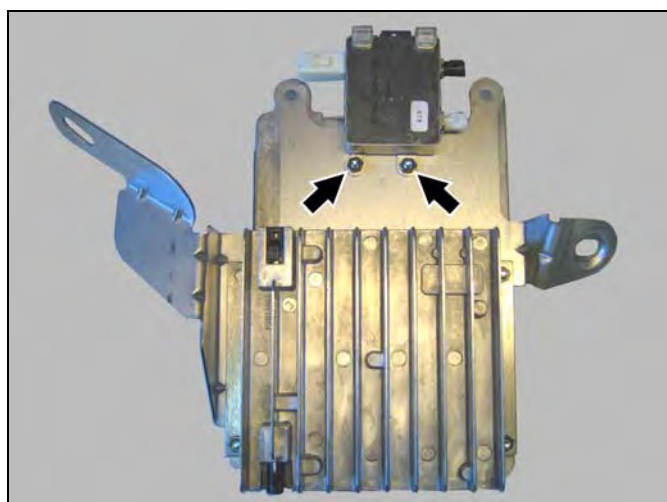

Figure 14
3. Fasten the antenna switch to the threaded studs on the bracket backside—above the linear compensator—with two M3 nuts (Figure 14).